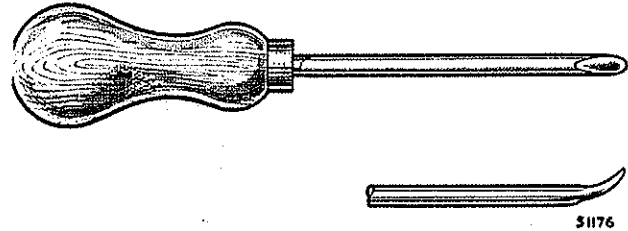

Fig. K.8. Removal tool for rubber piston seals
3. Remove the seals from both pistons using the tool shown in Fig. K.8. taking care not to damage the pistons or seal grooves.